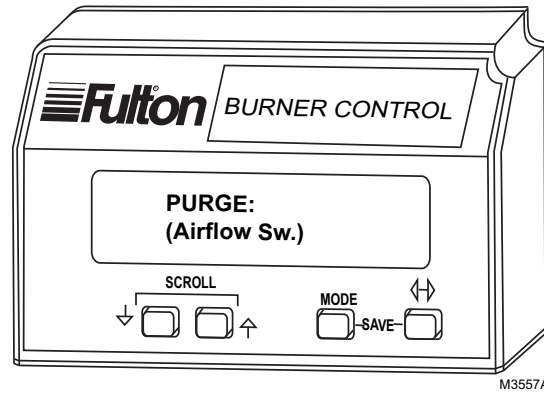

Fig. 3. Lockout message state 3.
- 3. State 3, see Fig. 3. Display of the third state message lasts three seconds. It is a replica of the burner status as it existed at the time of the lockout. The second line is